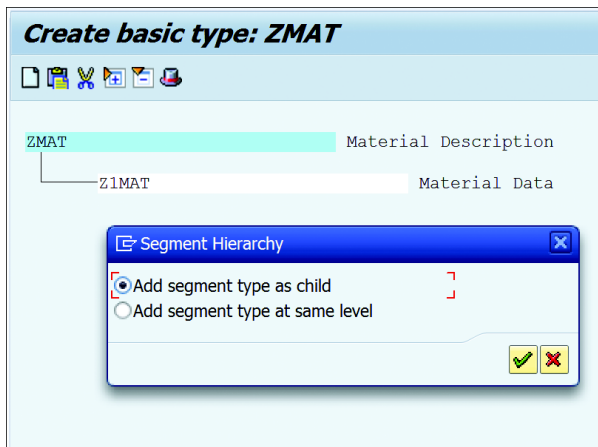

Figure 19.41 Adding Additional Segments
5. Click OK to add the segment to the basic type. Similarly, you can add additional segments to the basic type. You can add new segments as child segments by keeping the cursor on the existing segment and clicking the CREATE icon. Doing so will open a dialog box asking you whether you want to add the new segment type at the same level or as a child segment, as shown in Figure 19.41.